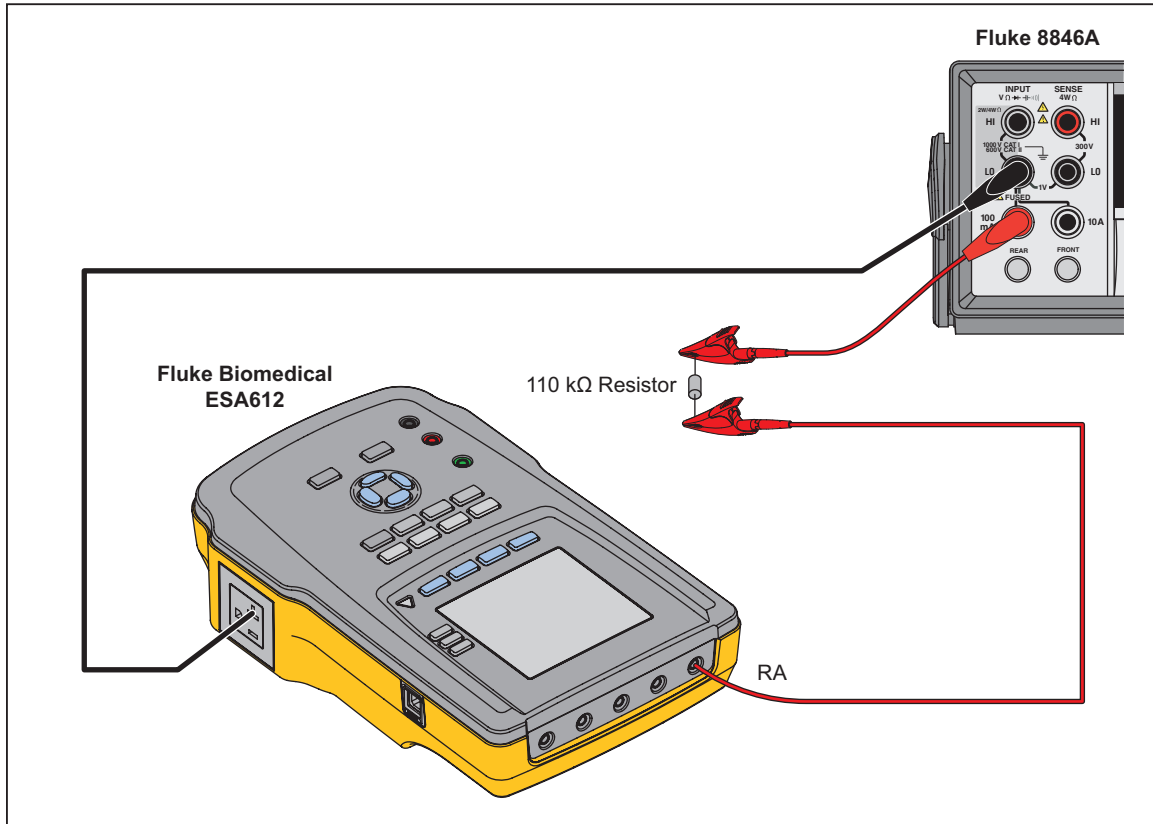

Figure 3-22. Alternative Applied Part Leakage: RA to Neutral Connections
1. Move the lead from the EO hot to the EO neutral, the other end should still be connected to the 110-k Ω resistor. The RA applied part lead should still be connected to the DMM Input (-). See Figure 3-22.